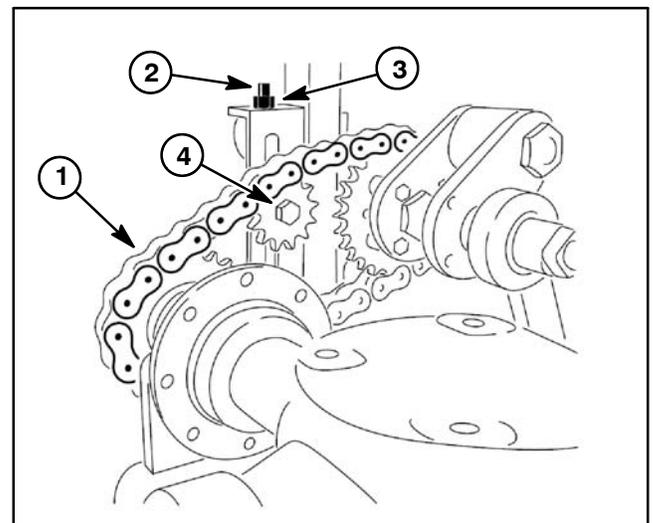

Figure 14
3. Loosen cap screw (item 2) and lock nut (item 5) to remove idler tension on drive chain.
5. Remove drive chain from gearbox, coring crankshaft and idler sprockets (Fig. 14).
A. Position drive chain to gearbox sprocket, pull lower run of chain tight and align with coring crankshaft sprocket teeth. If necessary, slightly rotate coring crankshaft so that chain remains tight when aligned with sprocket teeth. Route chain over idler sprocket and back to gearbox sprocket (Fig. 14). Do not allow lower run of chain to have excessive slack.
B. Apply grease to master link O-rings. Place two (2) O-rings on master link pins and install into ends of drive chain. Place final two (2) O-rings on master link pins and install side plate.